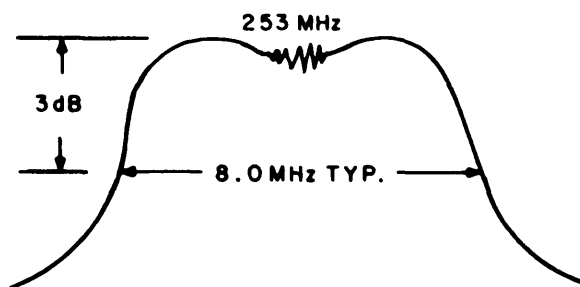

Figure 4-7. Typical, 80-250 MHz Tuner, RF Interstage Bandpass Response
- (7) Readjust the sweep generator to a frequency of 253 MHz. Adjust the turns of L3 and LA for a maximum amplitude double tuned response centered about the LO/IF marker as shown in Figure 4-7.